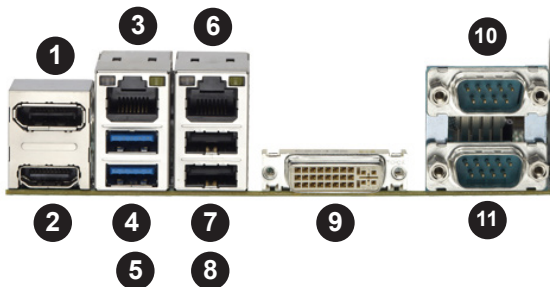

Figure 4-3. Rear I/O Ports
1. Locate the CPU fan power connector on the motherboard. (Figure 4-3)